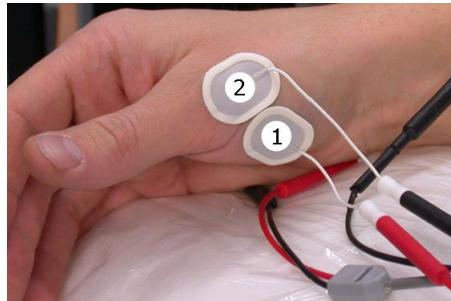

Fig. 21. Attaching red and black electrodes (for identifying EMG responses for abductor pollicis brevis (APB))
2. Attach the red (measuring) electrode on the belly of the muscle being measured (see item 1 in Figure 21).
3. Attach the black (referencing) electrode over bone or cartilage near the muscle (see item 2 Figure 21).